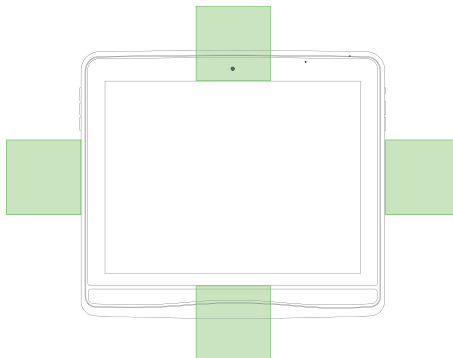

Figure 5.8 System Off-Screen Area
2. Look at the area where the System Off-Screen menu has been configured for your I-Series, see Figure 5.8 *System Off-Screen Area, page 29*
2. Look at the area where the System Off-Screen menu has been configured for your for your I-Series, see *Figure 5.8 System Off-Screen Area, page 29*